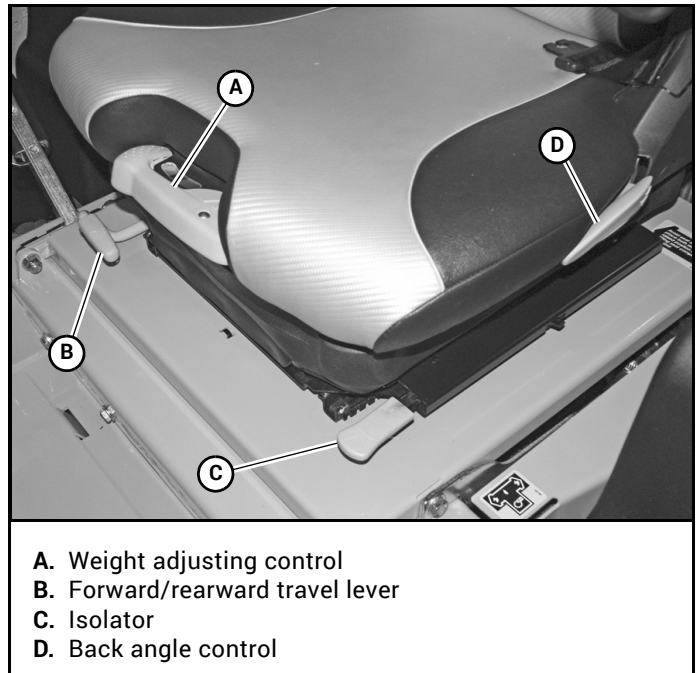

Figure 4-21
1. Back angle (Figure 4-21)
2. Forward and rearward travel (Figure 4-21)
3. Weight (Figure 4-21)
4. Isolator (Figure 4-21)